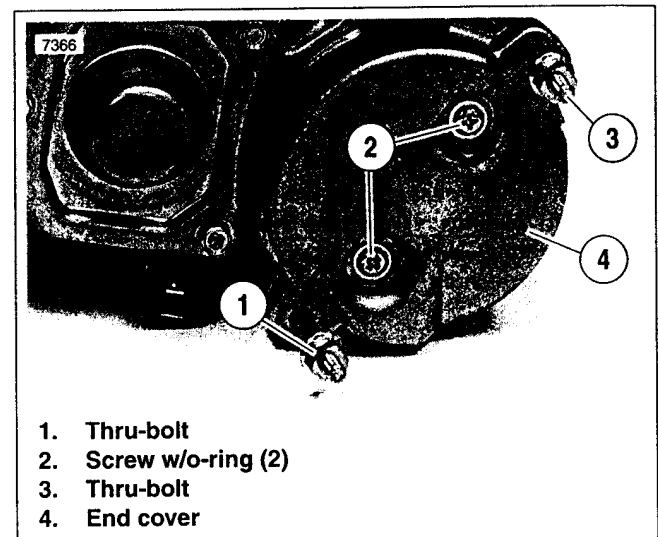

Figure 5-13. Removing the Thru-Bolts
3. See Figure 5-13. Remove both thru-bolts (1, 3), field coil and cap.
4. Remove both end cover screws with O-rings (2) and end cover (4).